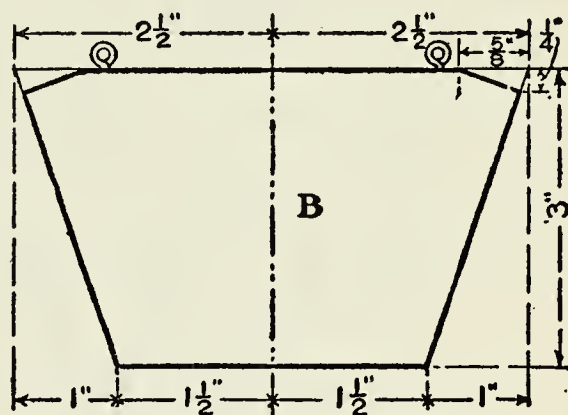

Fig. 63
The Other Parts. Figure 62 shows a cross-section of the bull-dog whisk-broom holder, with the head (A) drawn in full outline, the back (B) in dotted lines, and the end pieces (C) in cross-section. Figure 63 shows a pattern for the back. If the front of your holder is a different width (the model is $5\frac{1}{2}$ inches) you may have to change the width of the back piece. Figure 64 is a pattern of the end pieces.
FIGS. 63 and 64. PATTERNS OF BACK AND END PIECES